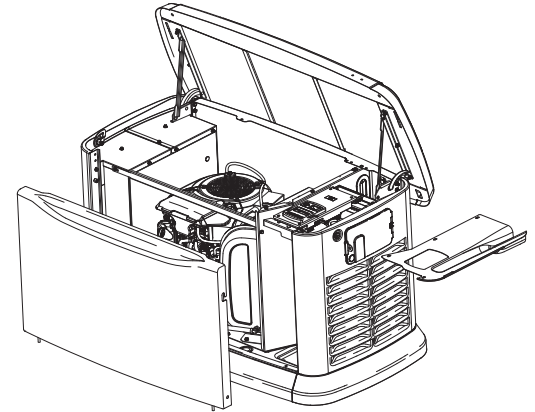

Figure 1
1. Work on a unit that has cooled completely. Lift up the roof on the unit and remove the door. Put the engine start switch in the "OFF" position. (Figure 1)